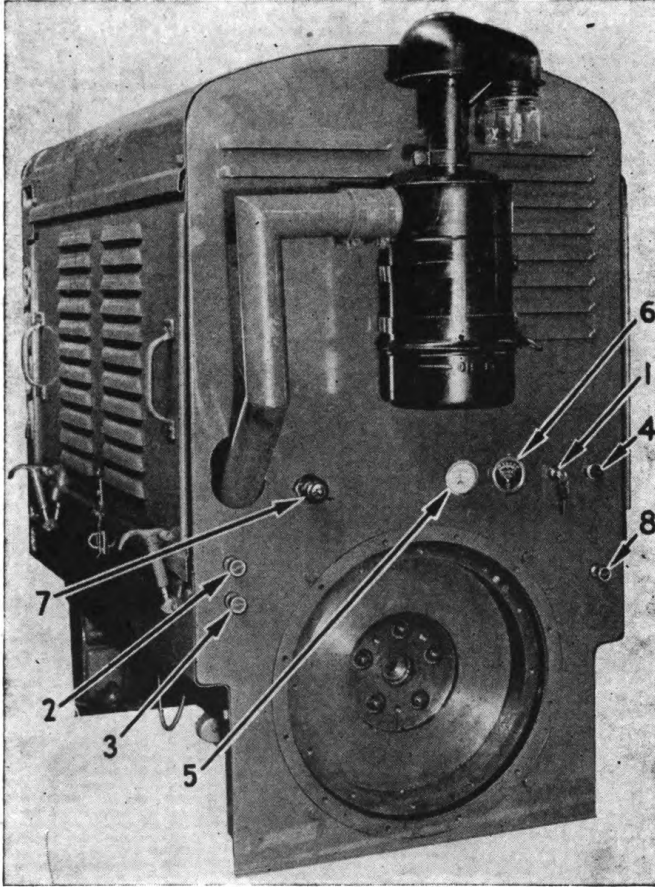

Figure 5
Identification and Functions of Engine Controls—Figure 5
Ignition—Turn key switch to right to turn on, (1) Figure 5.